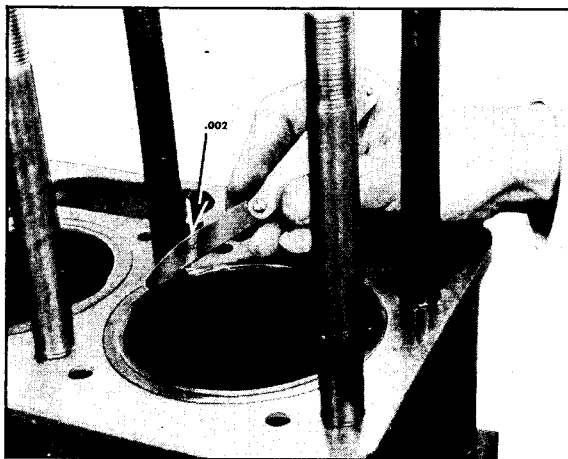

Fig. 12-19. Clearance at top of liner
4. Check the clearance around the entire circumference of the block counterbore and the top liner flange with a .002 feeler gauge. Fig. 12-19.